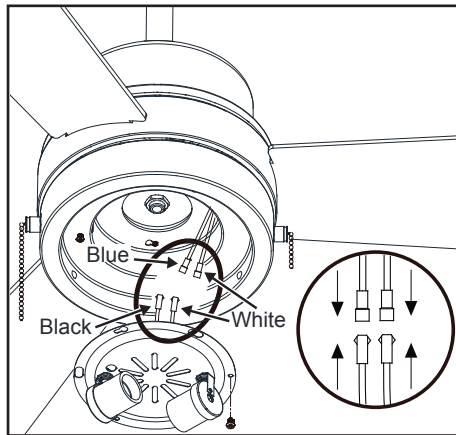

Figure 15
5. Connect the wires from light kit pan to the wires from light kit fitter assembly by connecting the molded adaptor plugs together (blue to black, white to white). (Figure 15)
6. Push the light kit fitter assembly up to the light kit pan so that the two loosened screws heads fit into the keyhole slots. Turn the light kit fitter assembly to secure. Tighten each screw firmly. (Figure 15)